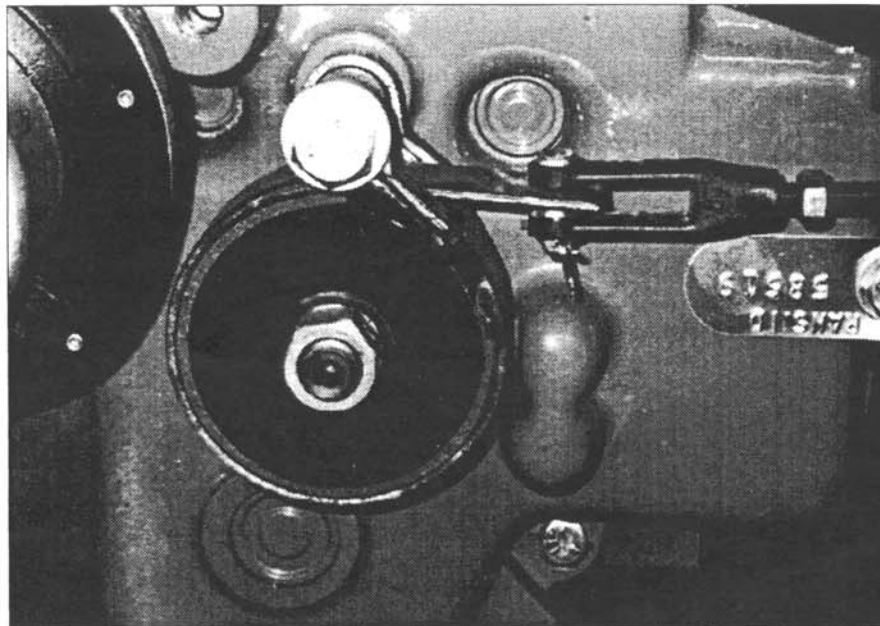

FIGURE 4
3. Loosen the jam nut and remove the clevis pin (at the brake band), See Figure 4.